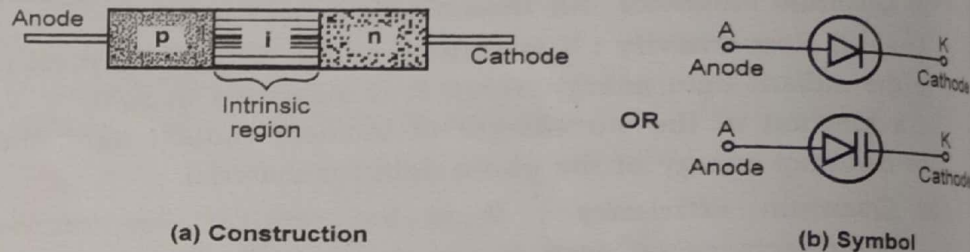

Fig. Q.14.1 PIN diode
- This is shown in the Fig. Q.14.1 (a). The symbol is shown in the Fig. Q.14.1 (b).
- When reverse biased, its transition capacitance is predominant and constant. Hence in reversed biased condition it acts as a constant capacitance, as shown in the Fig. Q.14.1 (a).